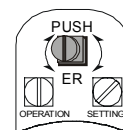

Fig. 8.4.1
- Disengaged **PUSHER SHAFT**: With a suitable screwdriver press the **PUSHER SHAFT** 3 mm and turn it 45°, ensure that it does not return to its original height (See figure 8.4.1)